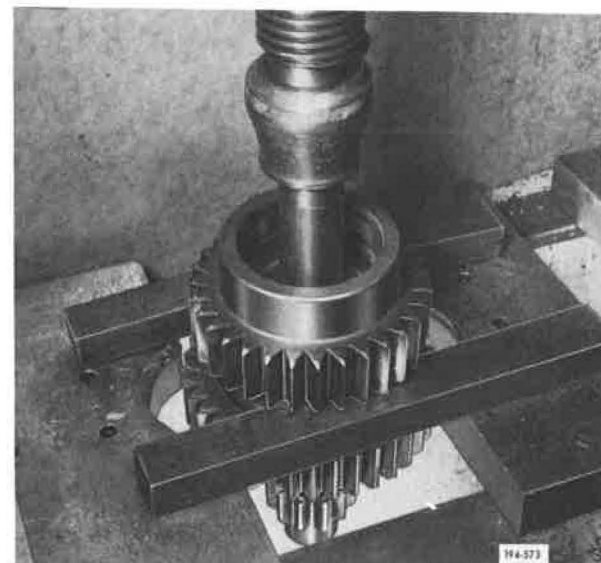

Figure 5-321. Pressing Gears Off of Rear Countershaft
4. Press the gears off of the rear countershaft. See Figure 5-321.